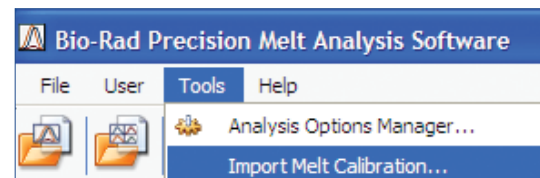

Fig. 5. Import Melt Calibration file.
2. Click **Tools > Import Melt Calibration** from the Menu bar (Figure 5).